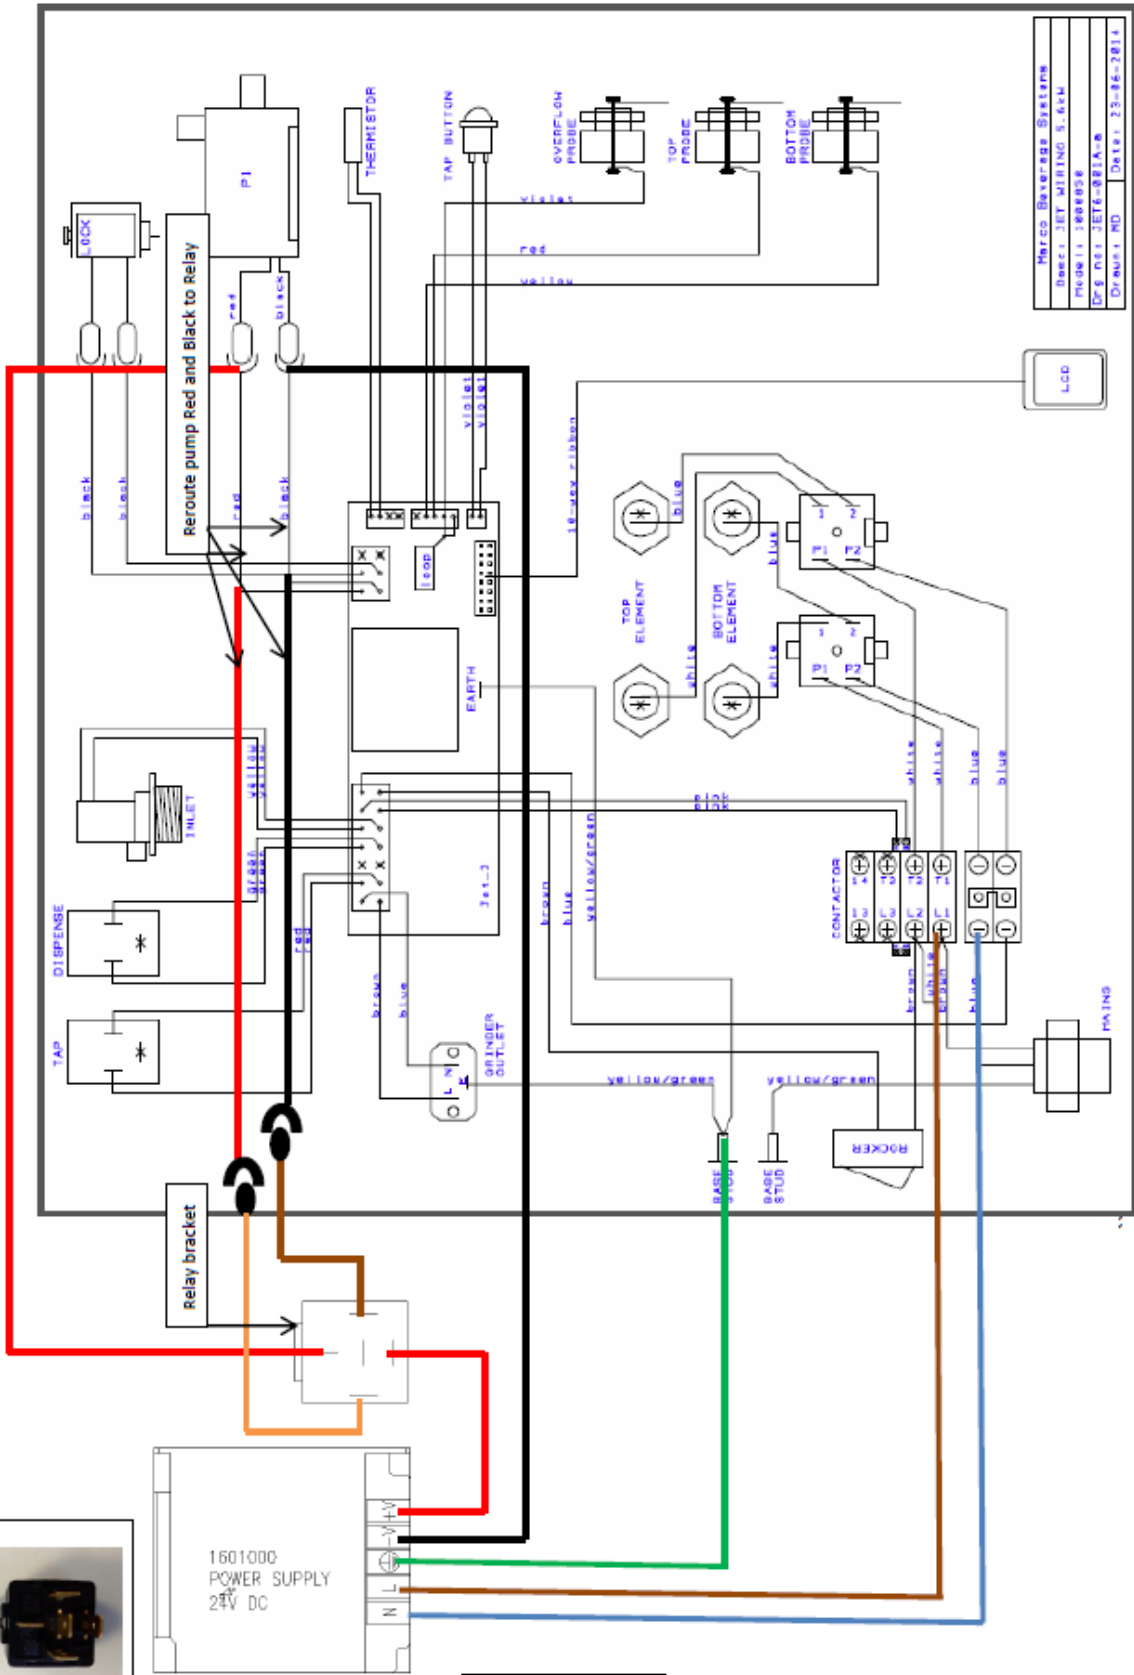

Fig 5.0 EU
- Remove the main PCB board cords and cables (Take a photo of the arrangement if unsure how to reinsert). Wiring diagram included, Fig 5.0 for EU & Fig 6.0 for USA(2 parts)
- Locate the new PCB board onto the 6 plastic mounting clips and reinsert the cables/ cord into the correct locations.(Use the photo previously taken if unsure) Make sure the battery is inserted into new main PCB board. See fig 3.0 for battery location. Wiring diagram included Fig 5.0 for EU & Fig 6.0 for USA (2 parts) for any clarifications on PCB.
- Please revert to the attached wiring diagram, Fig 5.0 for EU & Fig 6.0 for USA (2 parts). Print this and have beside you for the upgrade. For your specific model please refer to the Service manual Aug 2017 – Jet 6
- Connect the Live and neutral wires, Brown & blue respectively provided in the kit using the wiring diagram in Fig 5.0 for EU & Fig 6.0 for USA(2 parts) to the connector block and neutral block.